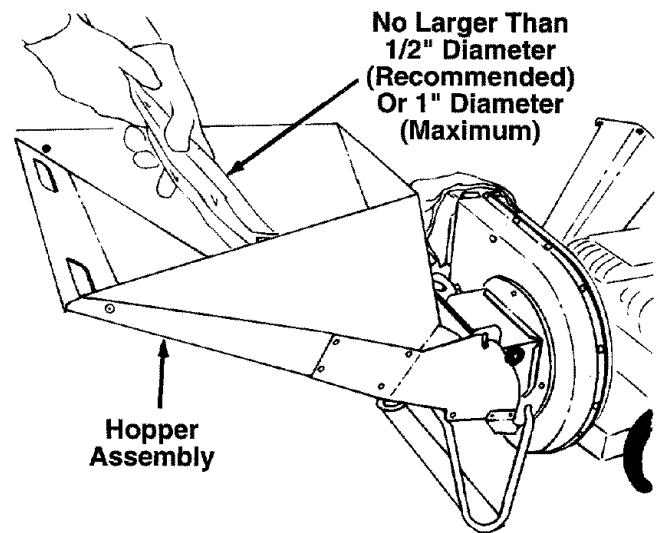

FIGURE 7.
- Leaves and small branches up to 1/2" diameter (recommended) or 1" diameter (maximum) can be fed into the hopper assembly when it is in the raised position. See figure 7. If it becomes necessary to push material into the chipper-shredder, use a small diameter stick—NOT YOUR HANDS. The stick should be small enough that it will be ground up if it gets into the impeller assembly.